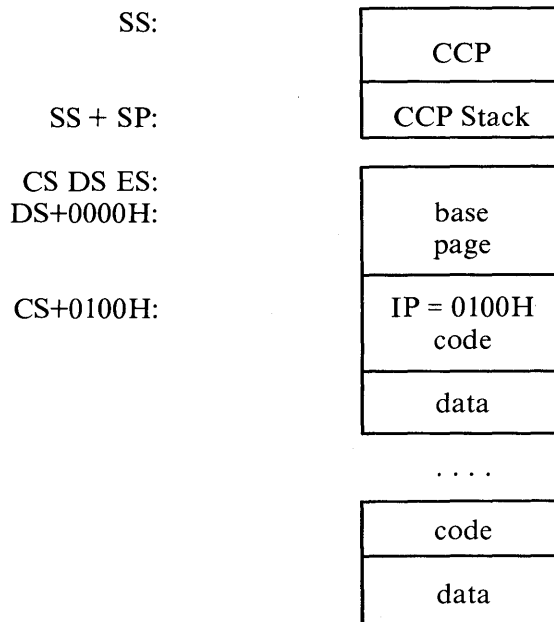

Figure 2-1 CP/M-86 8080 Memory Model
The 8080 Model is assumed when the transient program contains only a code group. In this case, the CS, DS, and ES registers are initialized to the beginning of the code group, while the SS and SP registers remain set to a 96-byte stack area in the CCP. The Instruction Pointer Register (IP) is set to 100H, as in CP/M-80, thus allowing base page values at the beginning of the code group. Following program load, the 8080 Model appears as shown in Figure 2-1, where low addresses are at the top of the diagram.